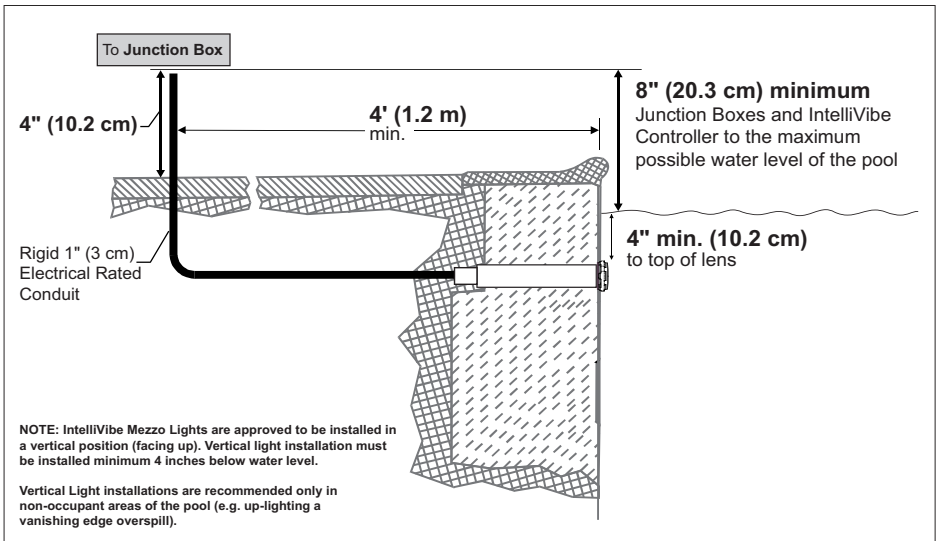

Figure 1
BEFORE STARTING: The following information describes the tasks that must be completed by the electrician *before* the light wall fitting is installed. See Figure 1.
- The Junction Box, PS300, and the IntelliVibe controller are located at least 4 inches (10.2 cm) above ground level or 8 inches (20.3 cm) above maximum water level, whichever is higher. The Junction Box, PS300, and the IntelliVibe controller must be at least 4 feet (1.2 m) from the edge of the pool. See Figure 1.
See *Figure 1* on page 2 for junction box installation in the USA.